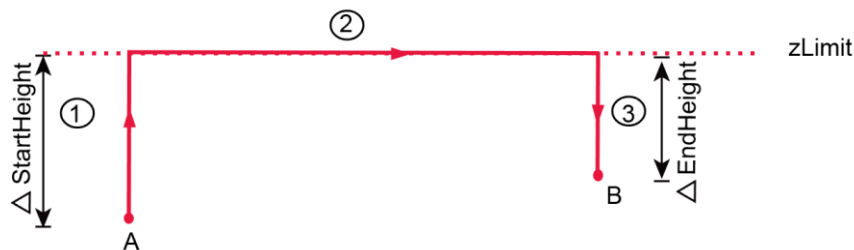

Figure 2.8 Jump mode (1)
- If point **A** plus **StartHeight** or point **B** plus **EndHeight** is higher than **zLimit**, the robot moves up from point **A** to **zLimit** or moves down from **zLimit** to point **B** directly, the trajectory looks like a door without transition, as shown in Figure 2.8.